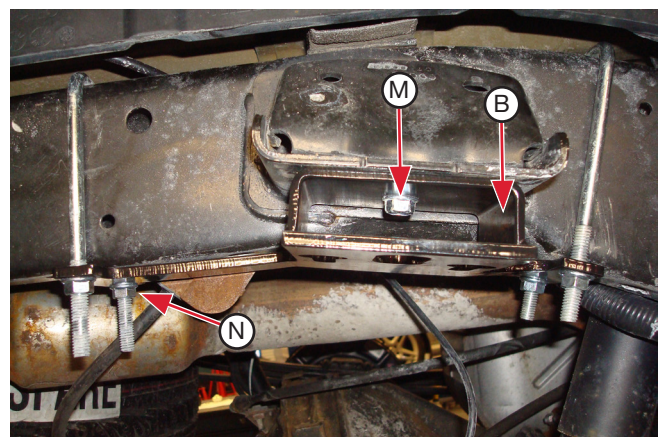

Fig. 9
2. Using a long socket, insert the M8 hex flange bolt (M) through the passenger's (right) side upper bracket (B). Position the upper bracket under the jounce bumper bracket while inserting the U-bolts through the mounting holes. Install the M8 bolt into the jounce bumper mounting hole and tighten the bolt finger tight. Tighten U-bolts finger tight using the 3/8"-16 serrated flange nuts (N) (Fig. 9). Torque the M8 hex flange bolt first to 15 lb.-ft. (11Nm), then tighten the 3/8"-16 serrated flange nuts evenly to 15 lb.-ft. (11Nm). Repeat for the driver's (left) side.